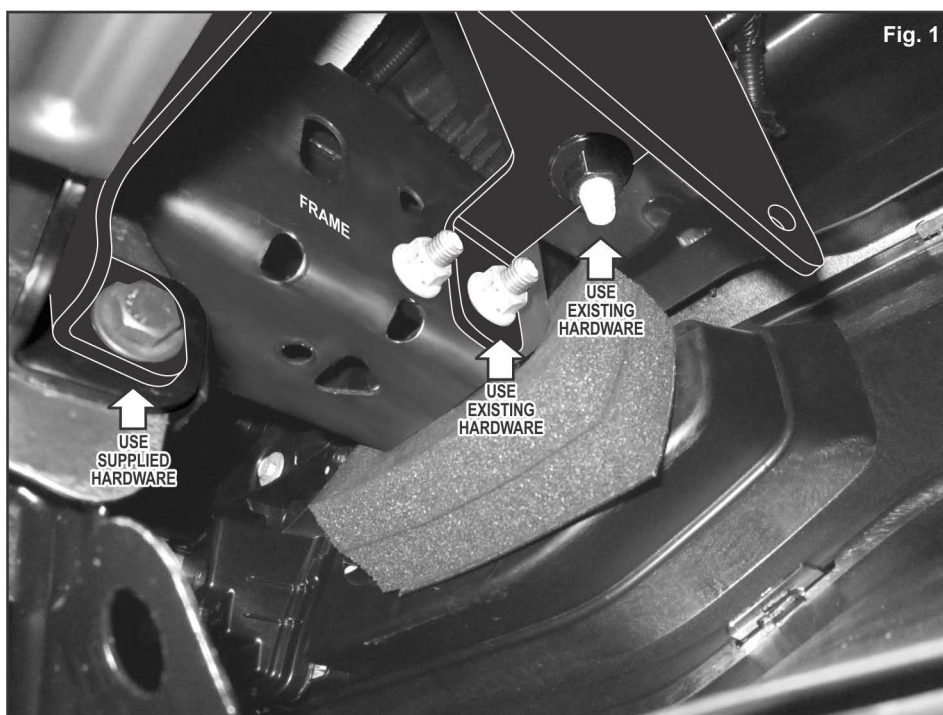

Fig. 1
1. Mount both the driver and passenger side mounting brackets as shown (Fig. 1). The brackets will mount to the frame and to one of the support brackets holding the front fascia. One of the frame bolts is supplied. For the two other mounting bolts you will use existing hardware.